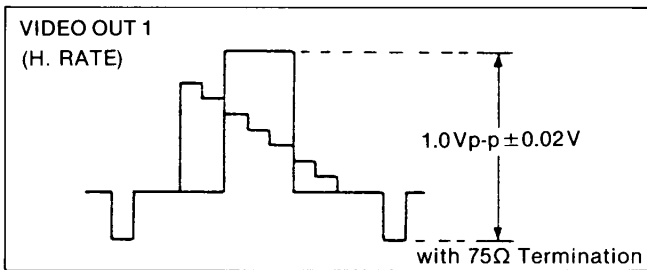

Figure E20
4. Adjust VR3503 for 1.0 +/- 0.02Vp-p as shown in Figure E20.